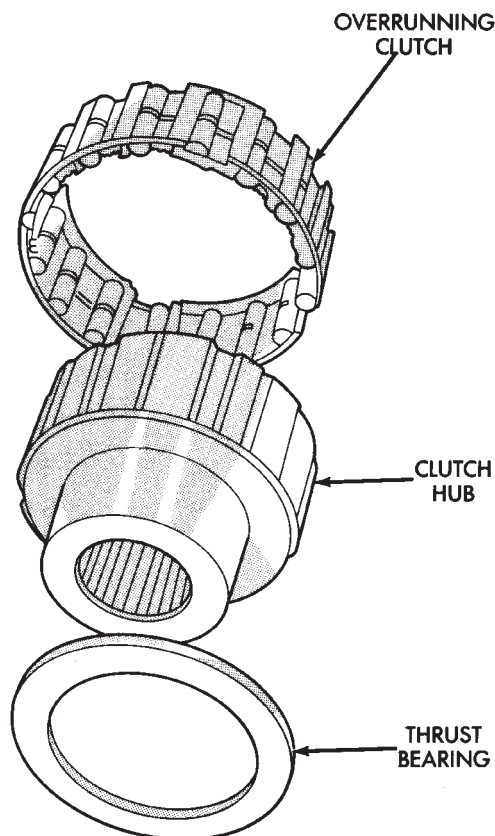

Fig. 269 Overrunning Clutch Components
(4) Remove thrust bearing from overrunning clutch hub (Fig. 269).
(5) Remove overrunning clutch from hub (Fig. 269).